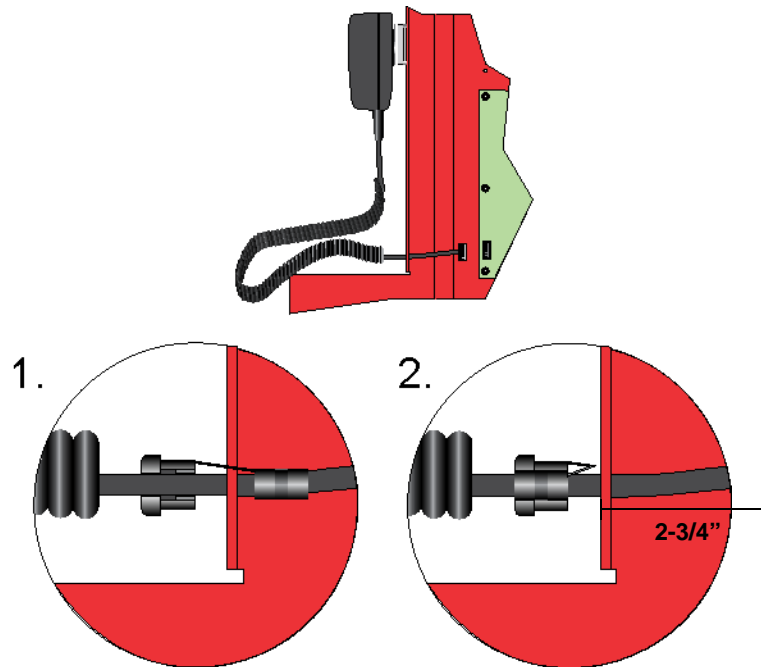

Figure 4-10 Installing Strain Relief Clip
3. Attach strain relief clip to microphone cord. The strain relief clip should have about 2-3/4" of microphone cord through it. See Figure 4-10.